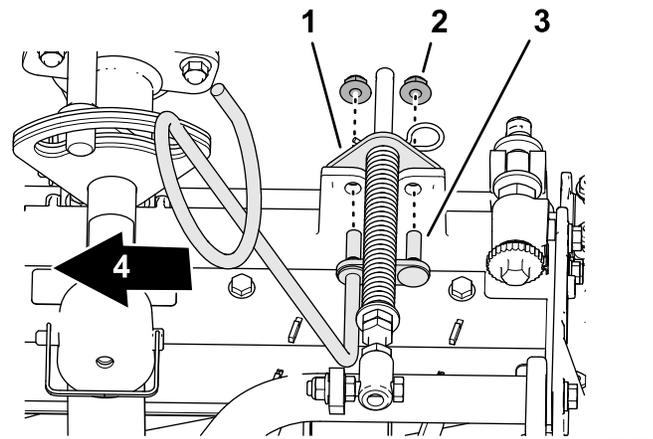

**Figure 10**
4. Assemble the capscrew of the turf compensation spring to the right tab of the carrier frame (Figure 10) with the flange locknut (3/8 inch).